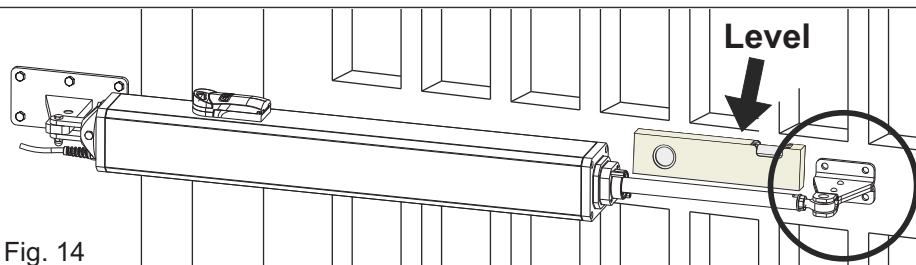
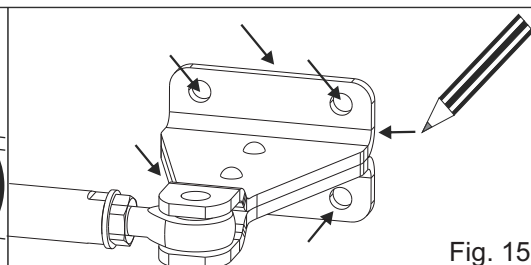

Fig. 14
Fig. 15
- Place the front bracket on the gate and place the shaft in the housing (Fig. 14)
- With the help of a level (Fig. 14), **make sure that the operator is in a perfectly horizontal position** then mark the front bracket and the holes position (Fig. 15)